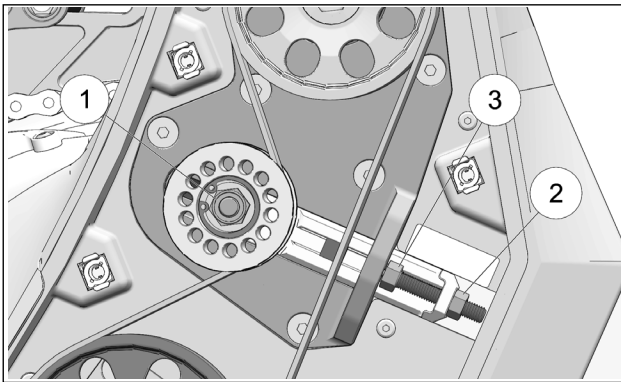

Figure 41
- Loosen tensioner pulley nut (1) $\frac{1}{2}$ to $\frac{3}{4}$ turn. See Figure 41.
- Loosen lock nut (2) on Belt Tensioner adjusting bolt. See Figure 41.
- Rotate Belt Tensioner adjusting bolt (3) to raise or lower belt tension. See Figure 41.
- Tighten tensioner pulley nut (1) back to 55 Nm (38 lb-ft) of torque. See Figure 41.